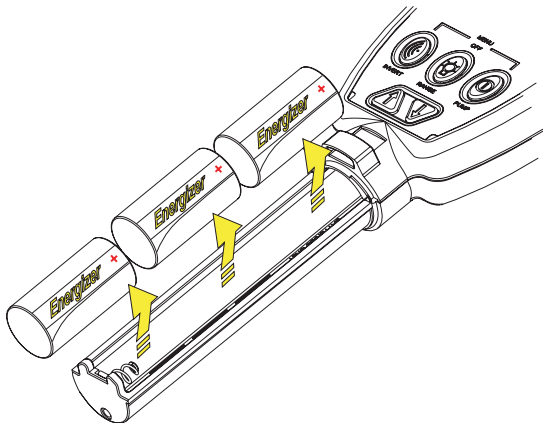

Fig. 12.12 Remove Batteries
- 3) Carefully lift then remove the three batteries from the compartment in the instrument handle, as shown in Fig. 12.12.
Replace with three, fully charged, GP 350 rechargeable batteries. Note polarity of batteries as shown in Fig. 12.12.
Replace with three new LR 14 (Duracell, Energizer or Rayovac) alkaline batteries. Note polarity of batteries as shown in Fig. 12.12.